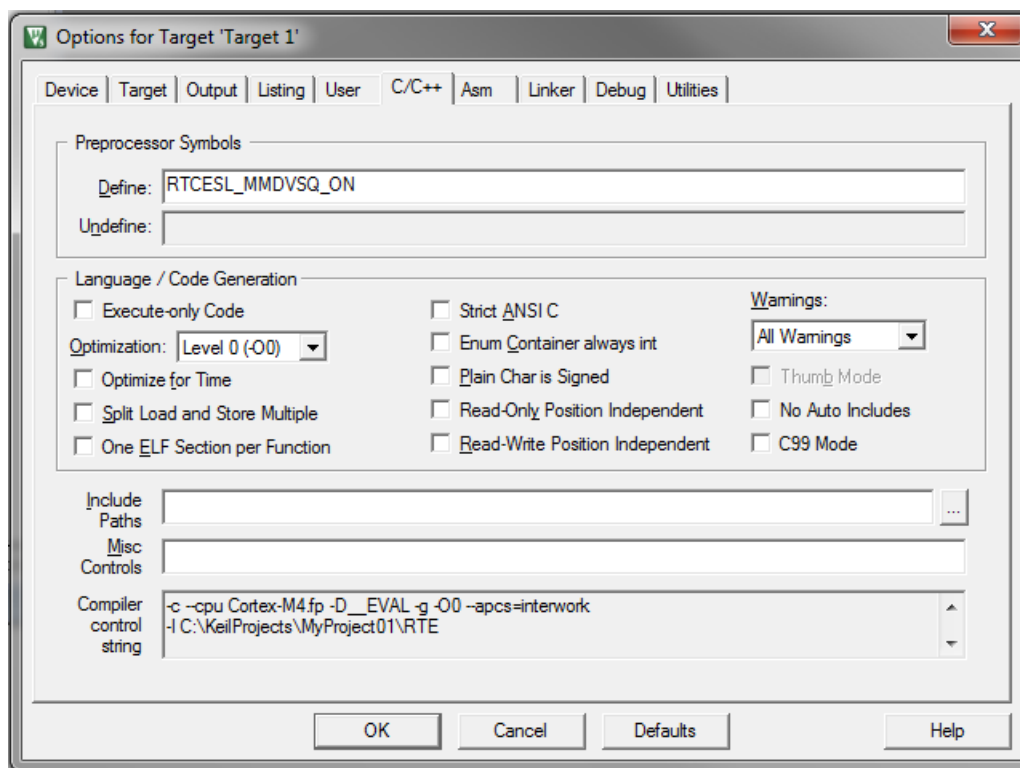

Figure 1-30. Preprocessor symbols
2. Select the C/C++ tab. See Figure 1-30.